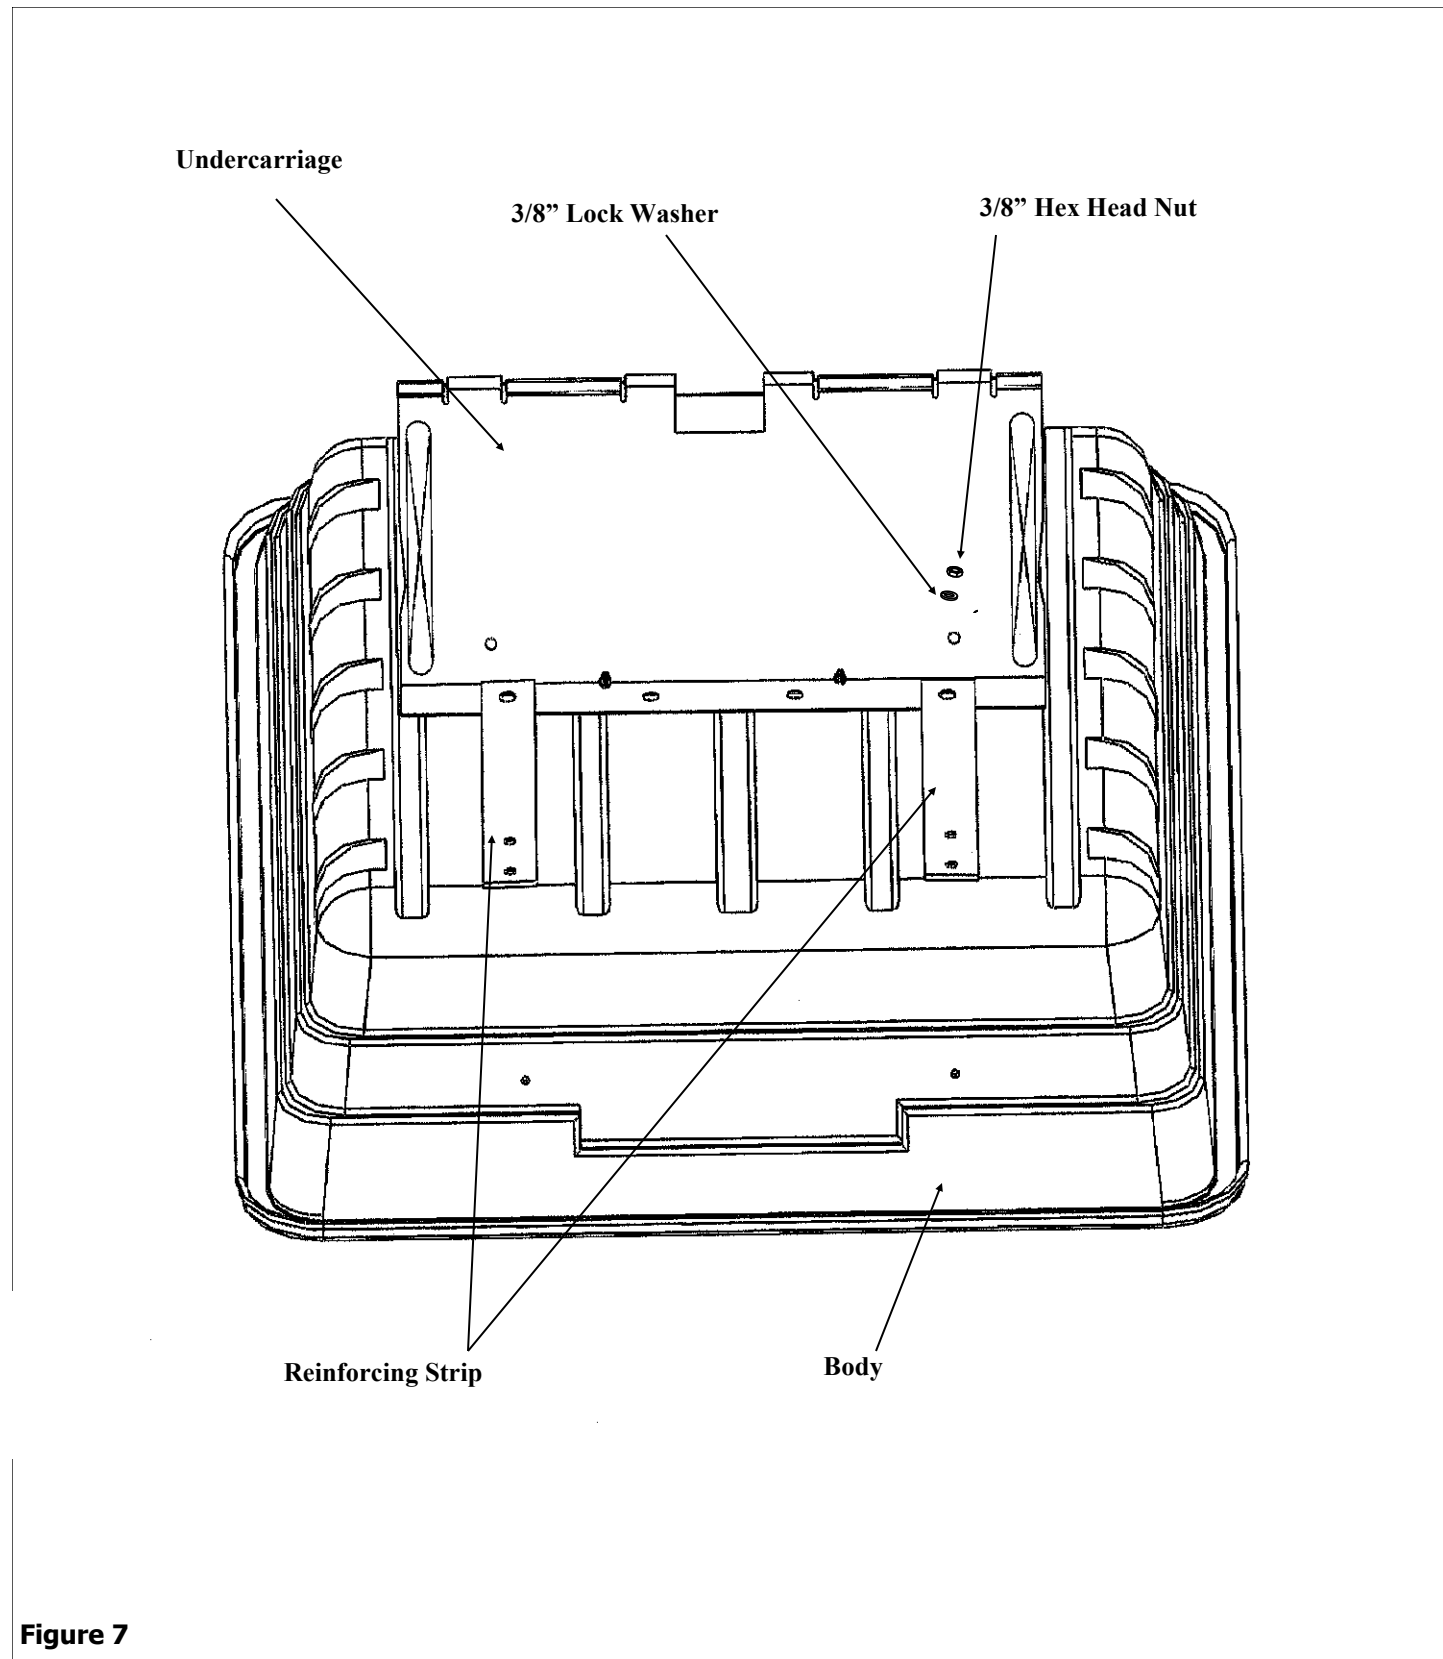

Figure 7
8. Attach Undercarriage Support and Reinforcing Strip to the Body using eight 3/8" x 1" Hex Head Bolts, inserting them into 3/8" Flat Washers through the holes in the Body, Undercarriage, then through Reinforcing Strip and secure with 3/8" Lock Washers and 3/8" Hex Head Nuts. of See Figure 7.